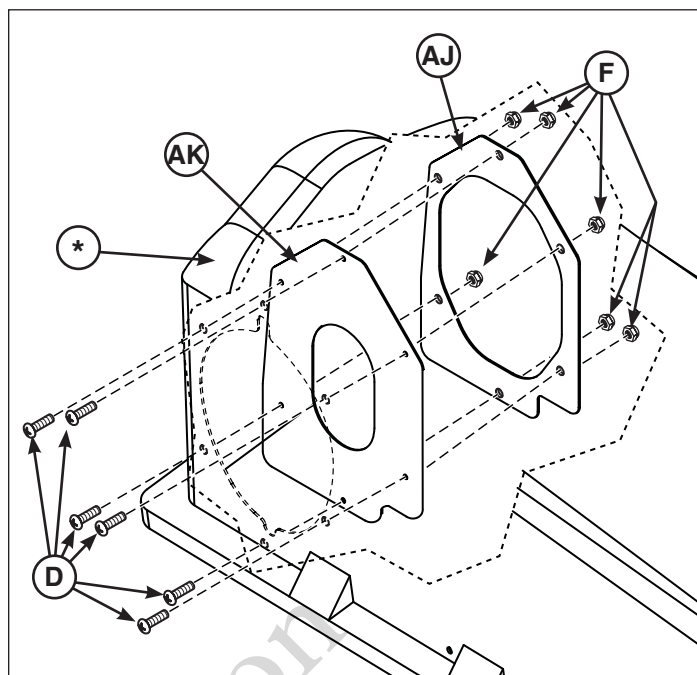

Figure 26
2. Inside grass catcher cover (*, Figure 26) place cover seal (**AK**) and flange seal (**AJ**). Secure using six screws (**D**) and nuts (**F**).